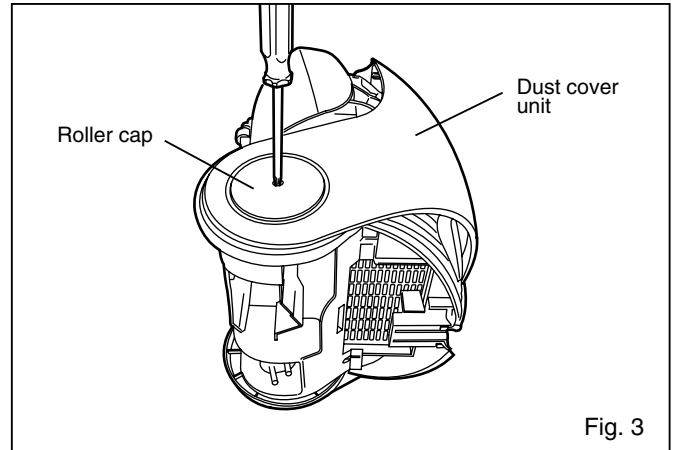

Fig. 3
1. When the latch of the dust cover unit is disengaged, remove the mounting screw (1 piece) of the left /right roller caps and remove them. (Fig. 3)